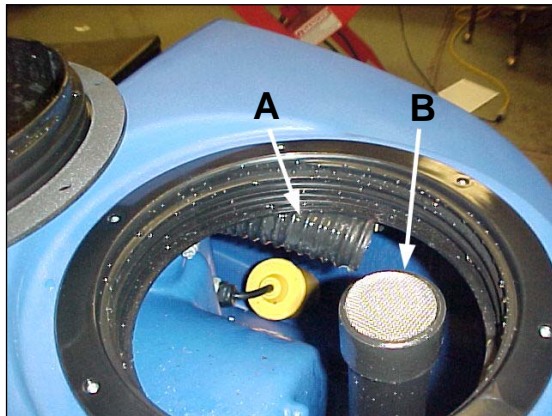

Figure 41
3. Recovery Hose - Position water hose inside recovery tank. Recovery hose is located behind threaded lip (see figure 41, A). **NOTE: Do not place hose in vacuum intake tube (see figure 41, B), damage will occur.**